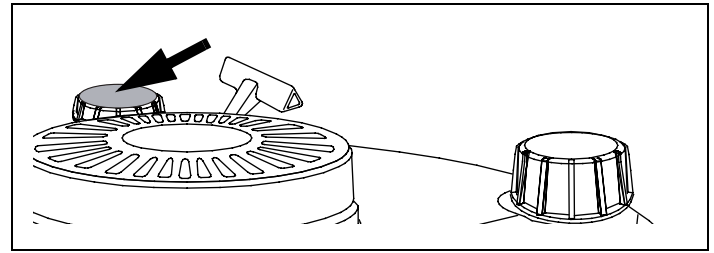

Figure 34. Oil Fill Cap/Dipstick
8. Clean area around oil fill tube and oil fill cap/dipstick. See Figure 34.
12. Install oil fill cap/dipstick. Tighten securely. See Figure 34.